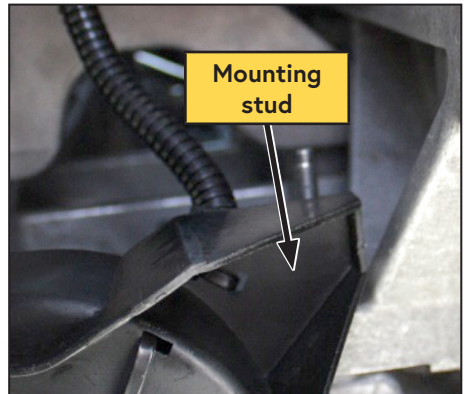

**Figure 14 — Remove locating sleeves**
- Using pliers, remove and discard the 2 aluminum locating sleeves from the power steering pump (Figure 14).